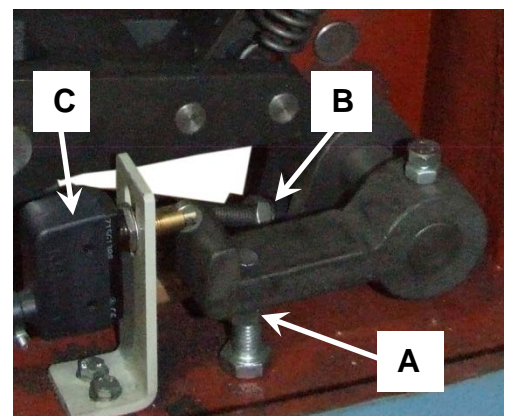

figure 55
- To adjust the micro switch (C) (fig. 55), loosen the jam nut. Raise or lower the switch in the slot for best contact with the brake actuator bar. Re-tighten jam nut.